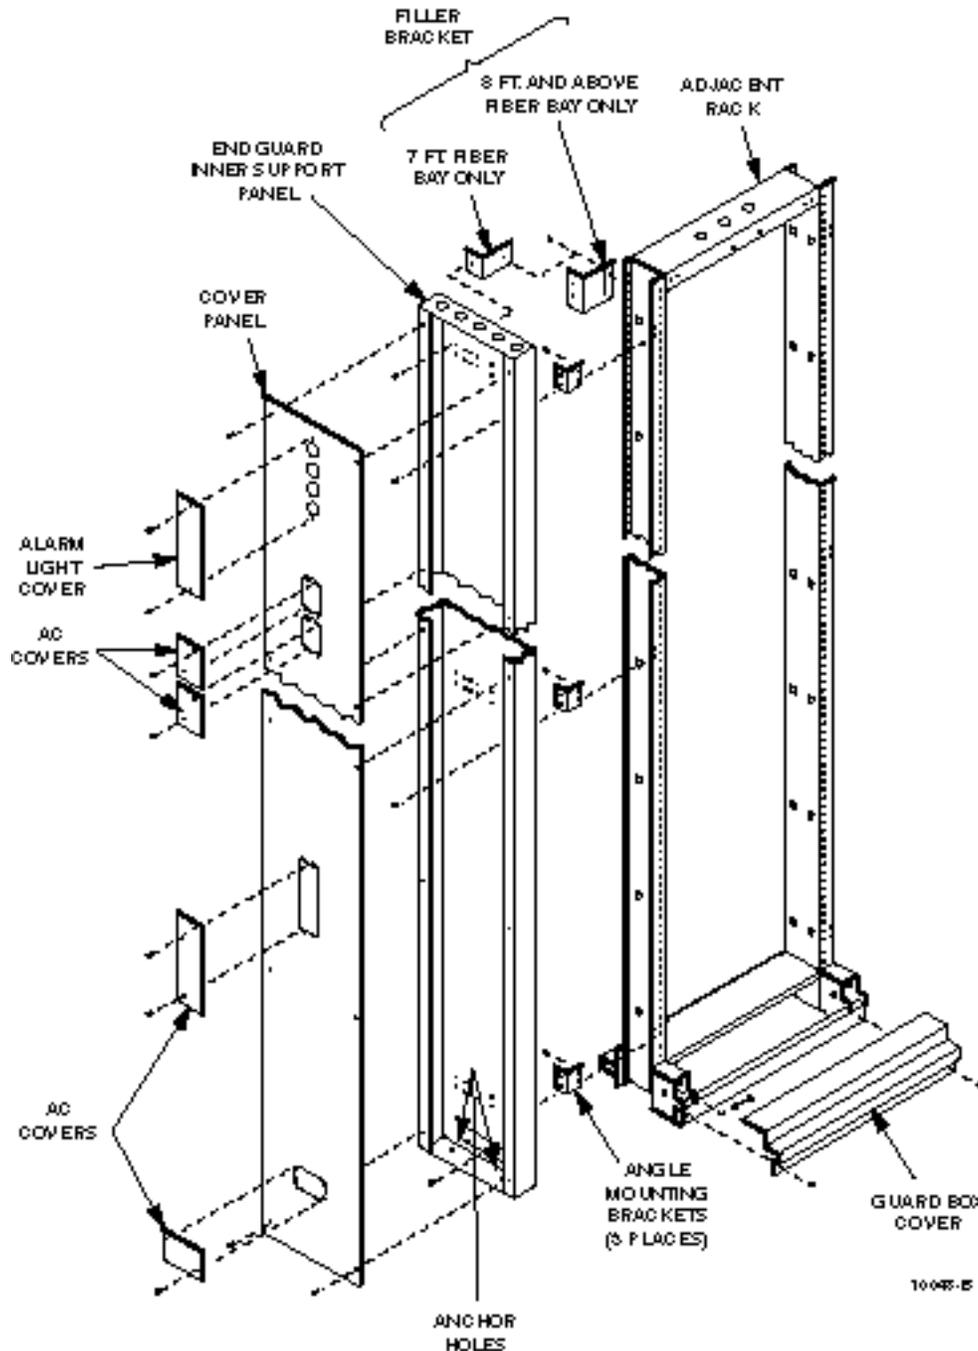

Figure 9-7. Installing an End Guard Panel Directly To Network Rack
- 9.4.5.1 An end guard panel can be used with any ADC unequal flange rack of either type, network or non-network. It can be attached directly to a rack or to a filler panel or interbay fiber management panel. Three heights are available corresponding to the three heights of racks. Use the following procedure to install an end guard panel (Figure 9-7).